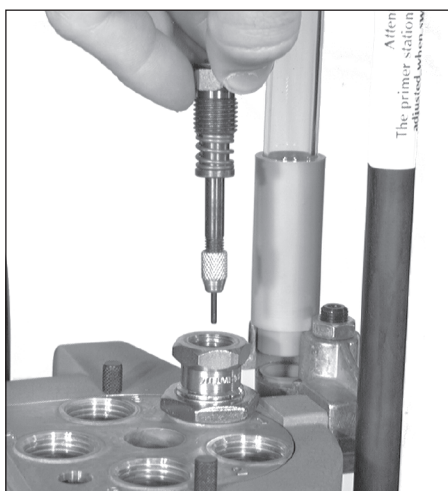

FIG 30
B. Station 1 – The decapping assembly FIG 30:
1. Unscrew the decapping assembly from the top of the die FIG 30.